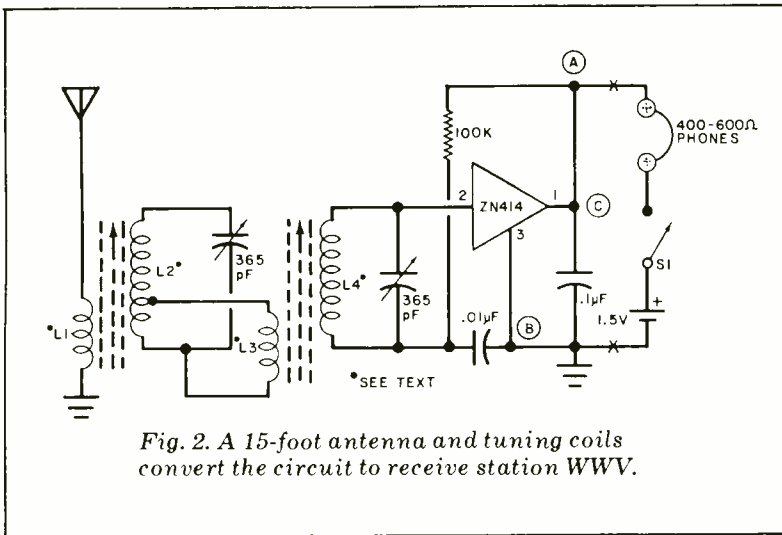

Fig. 2. A 15-foot antenna and tuning coils convert the circuit to receive station WWV.
**Time-Signal Receiver.** With only a few more parts than needed for the AM receiver, you can build a 2.5-MHz time-signal-only receiver to pick up WWV. The schematic for the receiver is shown in Fig. 2. With this circuit, a 15-ft length of wire serving as the antenna provided good reception of the WWV signal.